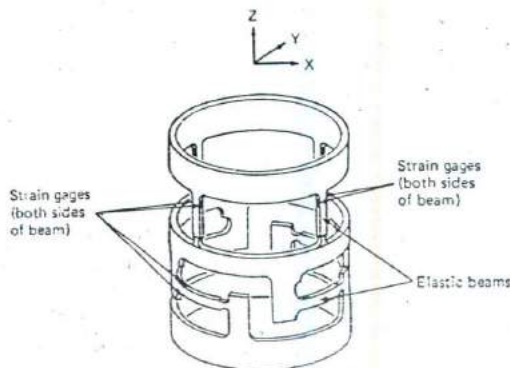

Fig. 15-34 Wrist sensor.
Figure 15-34 shows a wrist sensor for a robot manipulator that provides feedback signals proportional to the X, Y, and Z forces acting on it. It consists of
23. Refer to Fig. 15-34. Why are the strain gages placed on both sides of the beams?